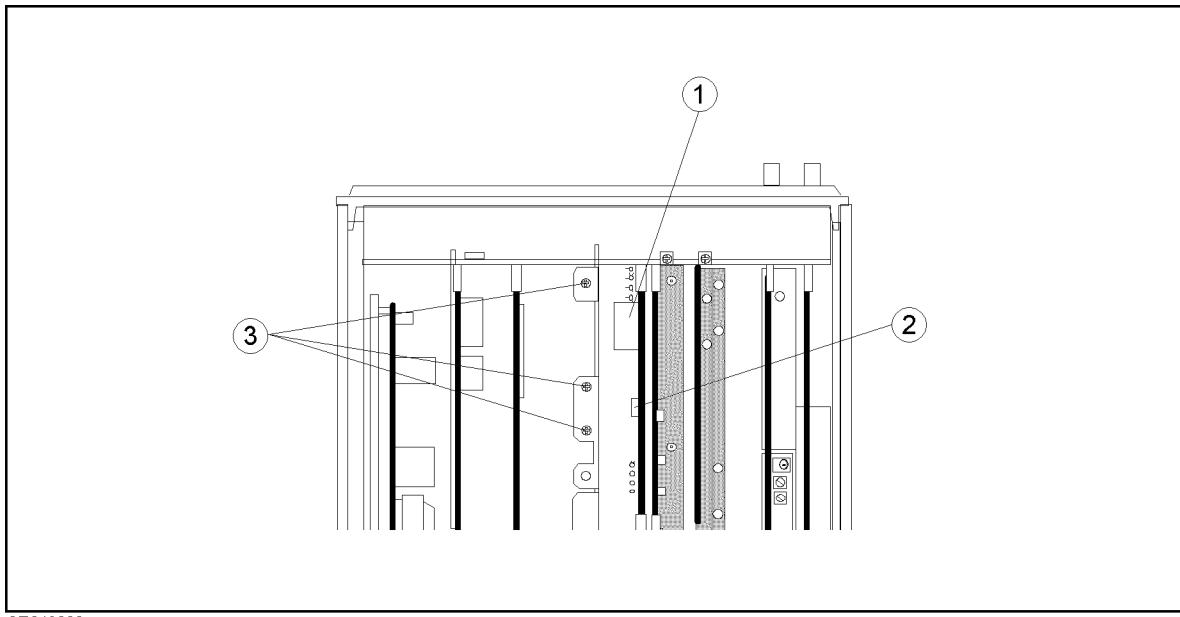

Figure 13-2. A2 Post Regulator Replacement
3. Disconnect the wire designated ① in Figure 13-2.
4. Disconnect the wire designated ② in Figure 13-2, if the option 1D5 is installed.
5. Remove the three screws designated ③ in Figure 13-2.